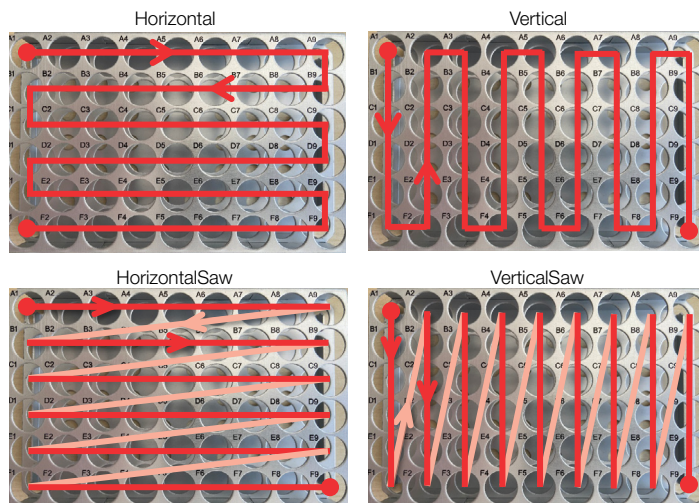

Figure 21. There is a choice between Horizontal or Vertical, SawHorizontal and SawVertical meandering schemes.
a. **Collect mode:** This setting determines how the fraction collector meanders when it reaches the end of a row. The choice is between *Vertical* or *SawVertical*, *Horizontal* or *SawHorizontal* (Figure 21).